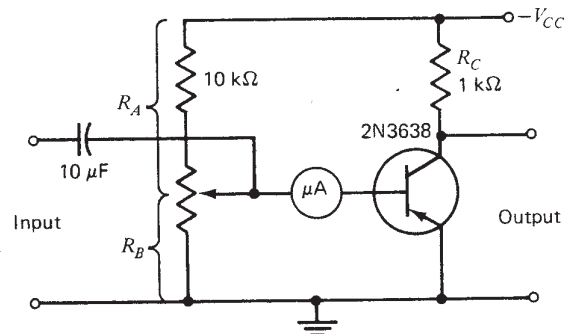

Fig. 58-3. Common-emitter amplifier.
Note: The circuit for which this load line is drawn appears in Fig. 58-3.
13. Connect the circuit of Fig. 58-3.